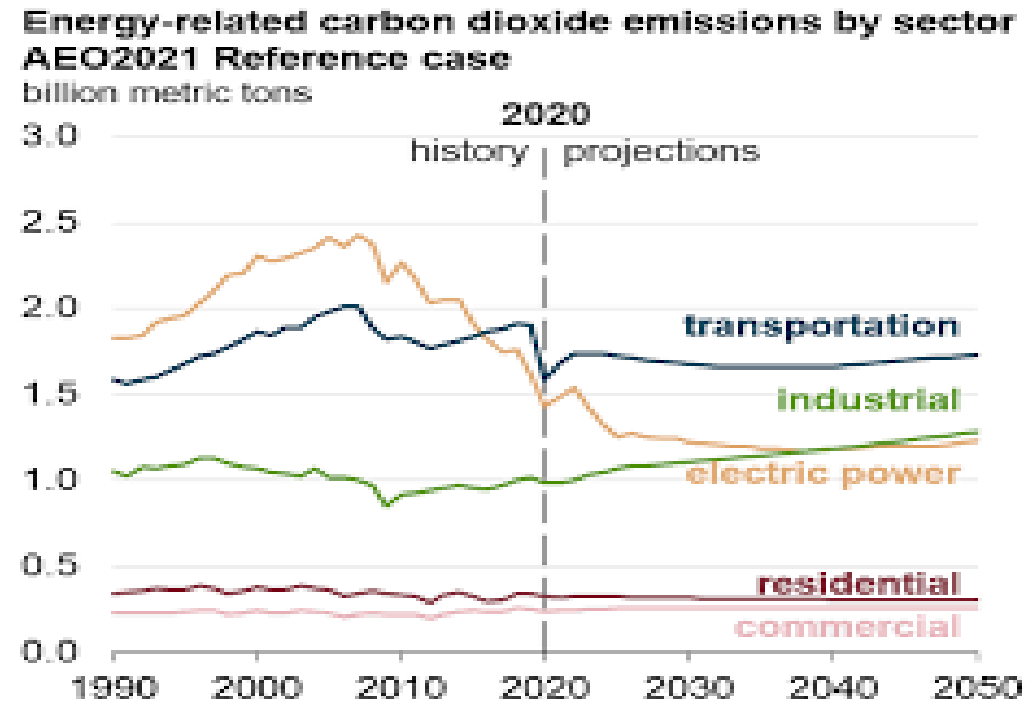

Fig 2: Trend in carbon dioxide emissions
- Figure 2 - transportation sector is clearly now the major contributor of carbon dioxide emissions.